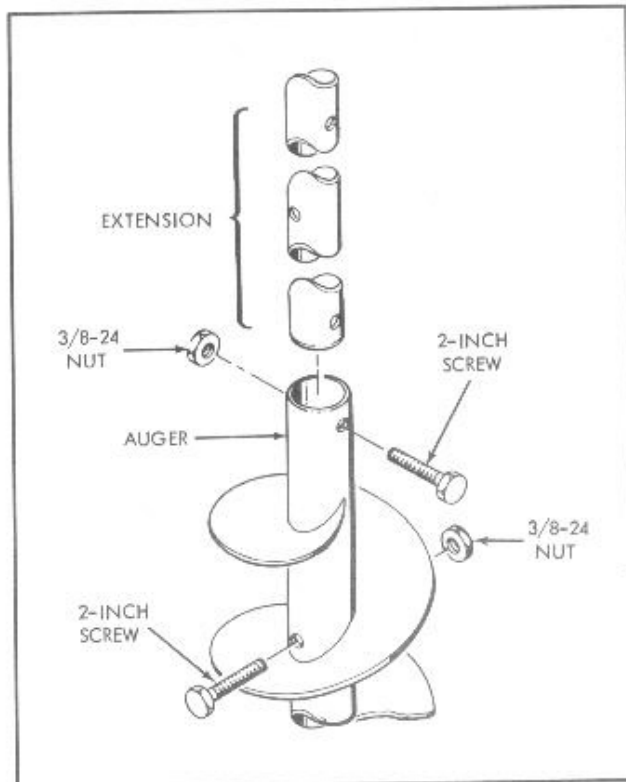

Figure 8. Install Auger
8. Slide the auger on the end of the auger extension and fasten together with the two 2-inch long screws and nuts from the kit (figure 8). You can mount the auger in either of two positions: close to the gear housing or toward the end of the extension.